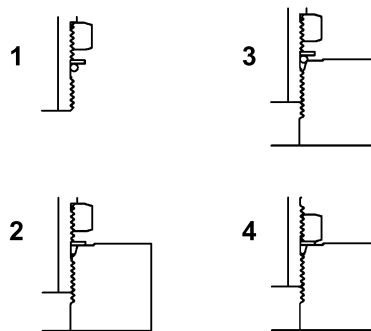

Figure 23
4. Turn back the lock nut as far as possible. Ensure that the back-up washer is not loose and it is pushed up as far as possible (Step 1 in Figure 23).
5. Install the adjustable fitting into the port by hand until the washer contacts the face of the port (Step 2 in Figure 23).
6. If the adjustable fitting needs to align with another component, rotate the fitting counterclockwise until it is aligned to the desired position (Step 3 in Figure 23). Do not rotate the adjustable fitting more than 1 turn counterclockwise.
7. Tighten the fitting lock nut (Step 4 in Figure 23):